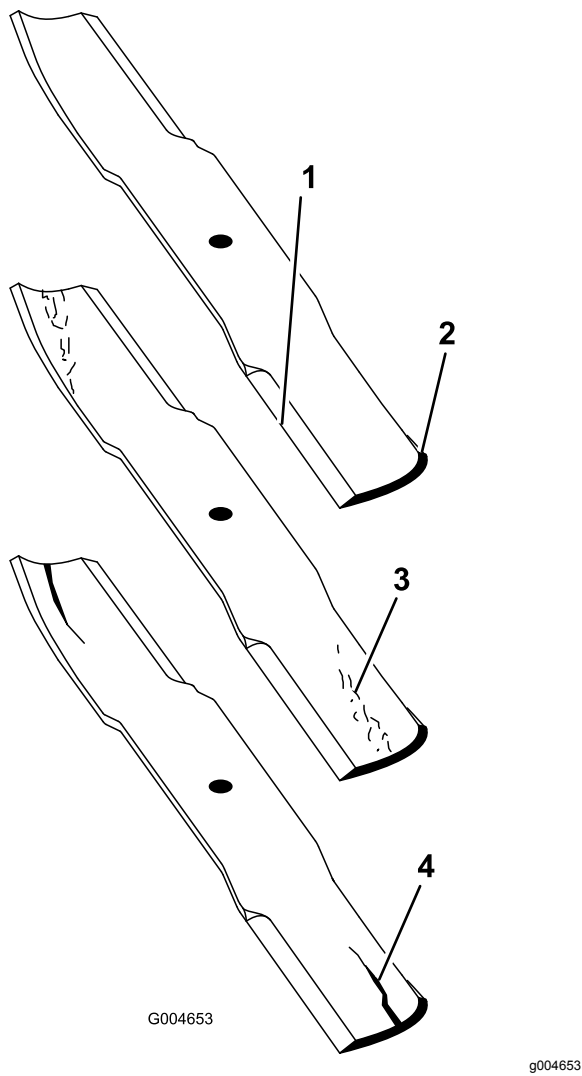

Figure 30
2. Examine the cutting ends of the blade carefully, especially where the flat and curved parts of the blade meet (Figure 30).
Note: Because sand and abrasive material can wear away the metal that connects the flat and curved parts of the blade, check the blade before using the mower. If you notice wear (Figure 30), replace the blade.